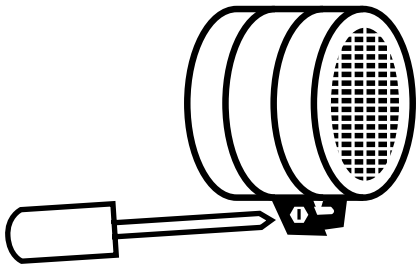

Figure 22: Remove screw holding spark arrester
5. Loosen the clamp holding the spark arrestor onto the muffler (see Figure 22).